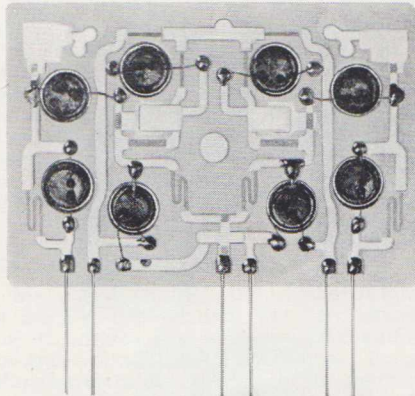

Fig. 4—Photograph of typical microcircuit.
4. The final stage in the manufacture of microcircuits is the fitting of the transistors and diodes, and soldering the lead-out wires into the circuit. The photograph of a typical microcircuit in Fig. 4 shows clearly how transistors and diodes are incorporated, and also shows the form of the other components.